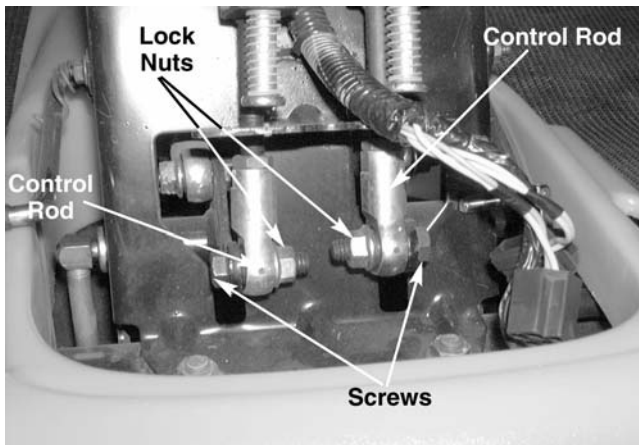

Figure 10-6.
11. Remove the hex cap screw and flange lock nut securing each control rod assembly to the lower left and right bellcrank assemblies using a 9/16 socket and a 9/16 wrench. See Figure 10-6.